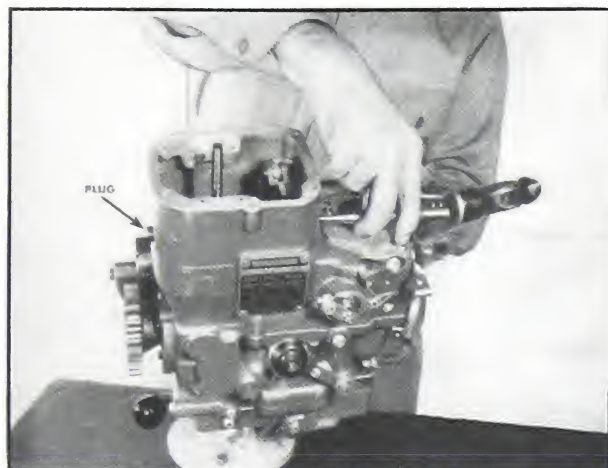

Fig. 5-184. Removing governor control shaft
5. Take out the $\frac{3}{8}$ " pipe plug from distributor end of governor housing. Fig. 5-184. Drive the governor control shaft and front plug from the housing.
3. Take out the pipe plug at the distributor end of the housing and drive out the governor control shaft. Fig. 5-184.